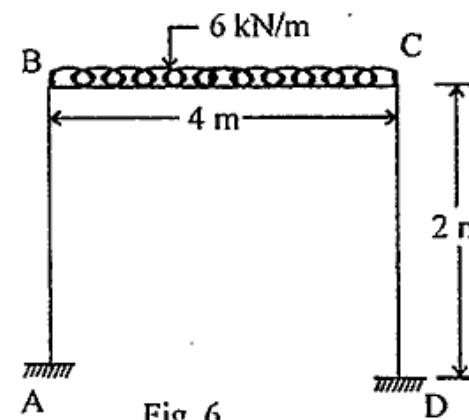

Fig. 6
6. Analyse the portal frame as shown in Fig. 6 by Kani's method. Draw B.M.D. and sketch the deflected shape of the frame. EI is constant for all the members.